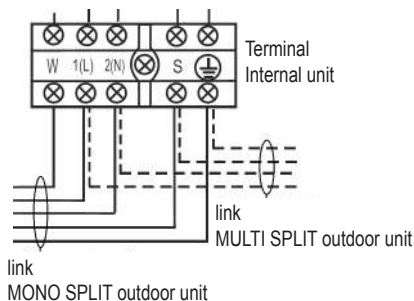

fig. 16 -
3. Make the connections referring to the wiring diagrams of the unit "fig. 16 -".